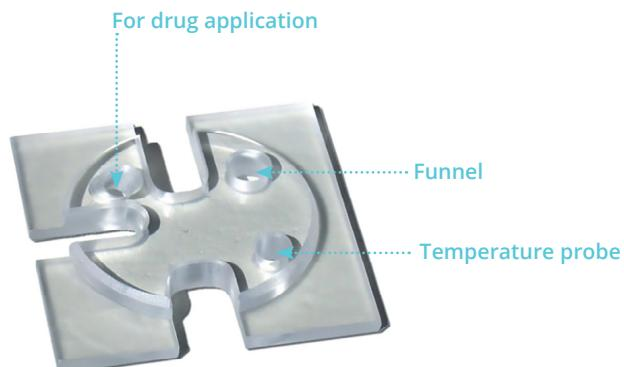

Figure 2.3 Chamber cover
5. **Chamber Covers:** The chamber covers will help maintain the temperature and other buffer conditions (gas tension, pH) fairly constant. Holes in the chamber covers serve different purposes, and they are illustrated in Figure 2.3 above. The slots allow the covers to be placed over the chamber around the support arms and gas/vacuum tubes.